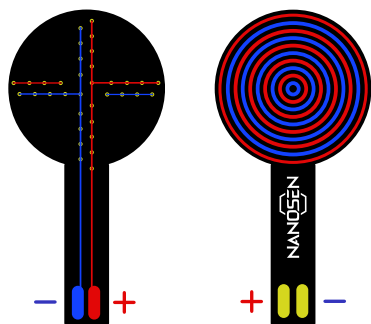

Figure 1: Electrode contact
- The electrode's conductive lines are alternately interconnected (see Figure 1)